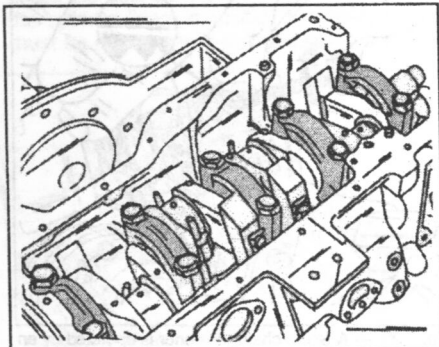

Fig. 1.22. — The crankshaft main bearing caps must be checked for identification marks before they are removed.
- The crankcase will now look as shown in Fig. 1.22. The main bearing caps can be marked in the manner described below. Starting from the flywheel end (cap No. 1), the following paint marks can be seen: